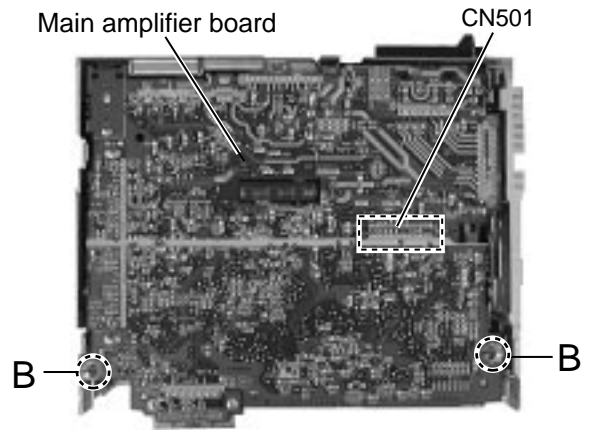

Fig.5
(See Fig.5 and 6)**
- The main amplifier board (Refer to Fig.5 and 6)